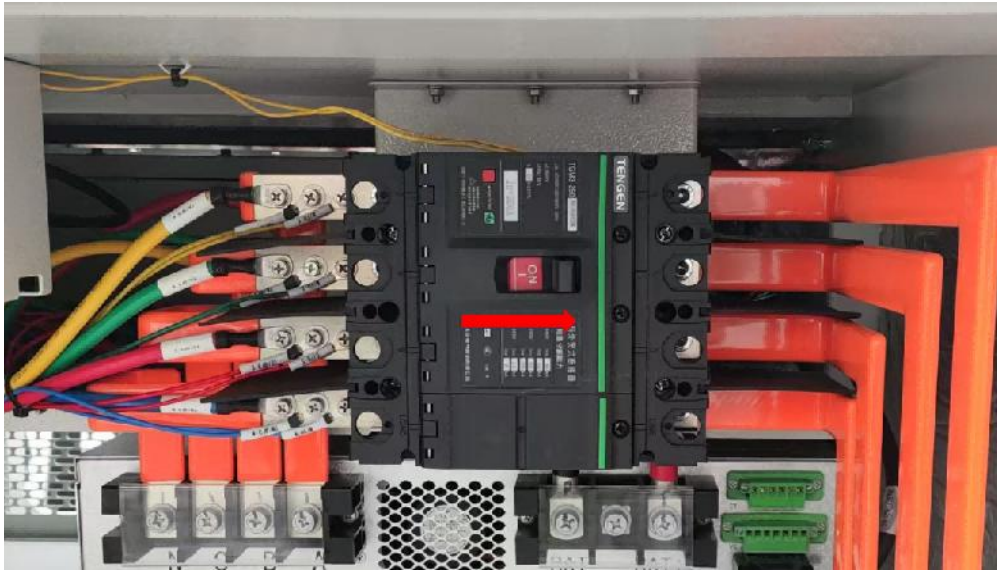

Figure 6.3 QF4 closed
Step 2: Close QF4 (the switch between the AC side of the liquid-cooling system and the grid) as shown in Figure 6.3.